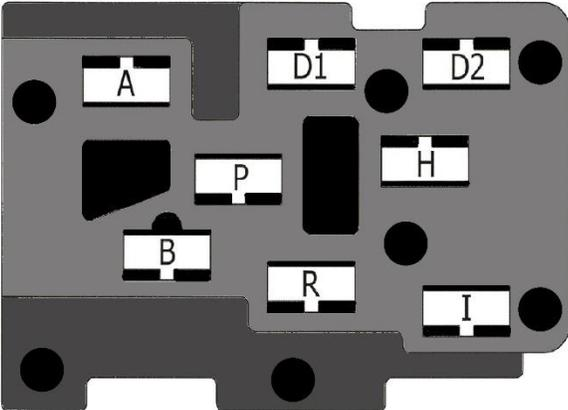

Figure 28 Headlight Switch Connector Housing Wiring (Wire Side View)
- Connect these wires of the Headlight Switch according to **Figure 28**. All Headlight Switch wires are terminated and have the proper connector pre-installed. *Note: Terminal position A is not used*